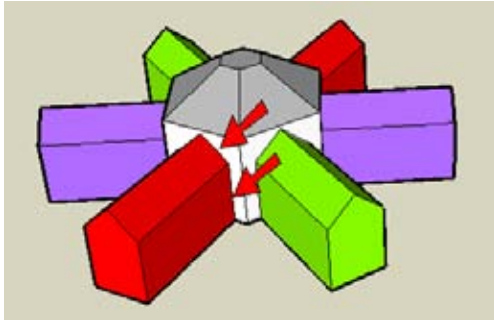

Figure 3-21
6. Select everything, right-click on any selected object, and choose **Intersect→Intersect with Model**. You now have edges along each vertical face (Figure 3-21).